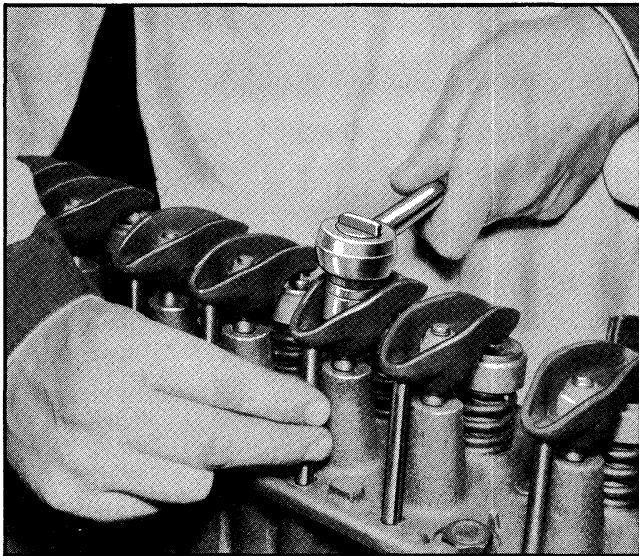

Fig. 6-18 Adjusting Valve Lifter Plunger Travel
2. With lifter on base circle of camshaft, turn rocker arm down until valve train play is removed. Turn nut down one additional turn (Fig. 6-18).
4. With lifter on base circle of camshaft, tighten rocker arm nut until valve train play is removed. Turn nut down one additional turn (Fig. 6-18).